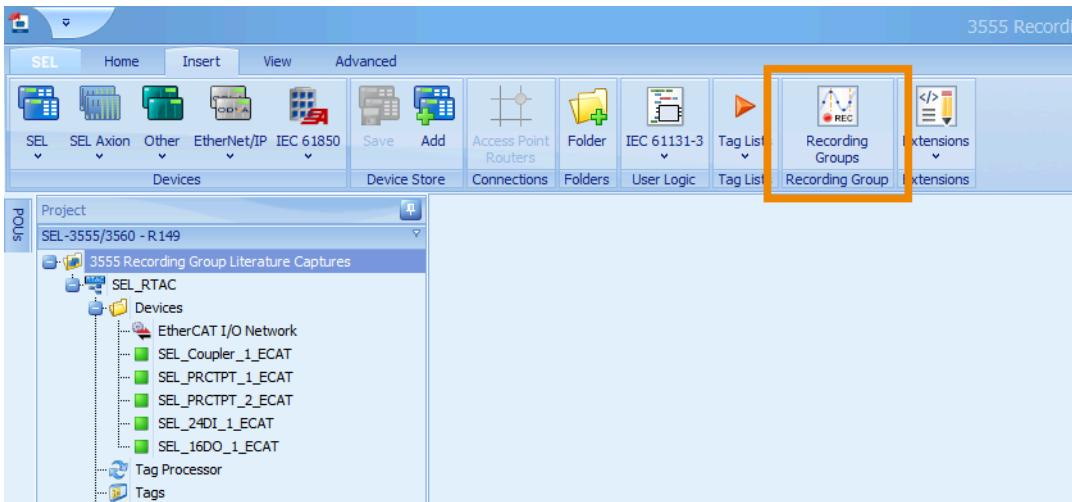

Figure 2.133 Insert a New Recording Group
Step 1. Select the Recording Groups icon in the Insert menu in ACSELERATOR RTAC, as shown in *Figure 2.133*.